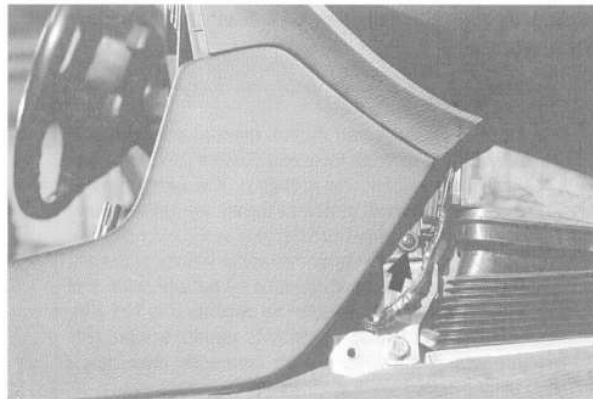

Fig. 6. Center console mounting screw on right side of console (arrow). Also remove screw on left side.
13. Remove carpeted trim panel from left and right sides of center console. Remove center console mounting screws at left and right sides. See Fig. 6.